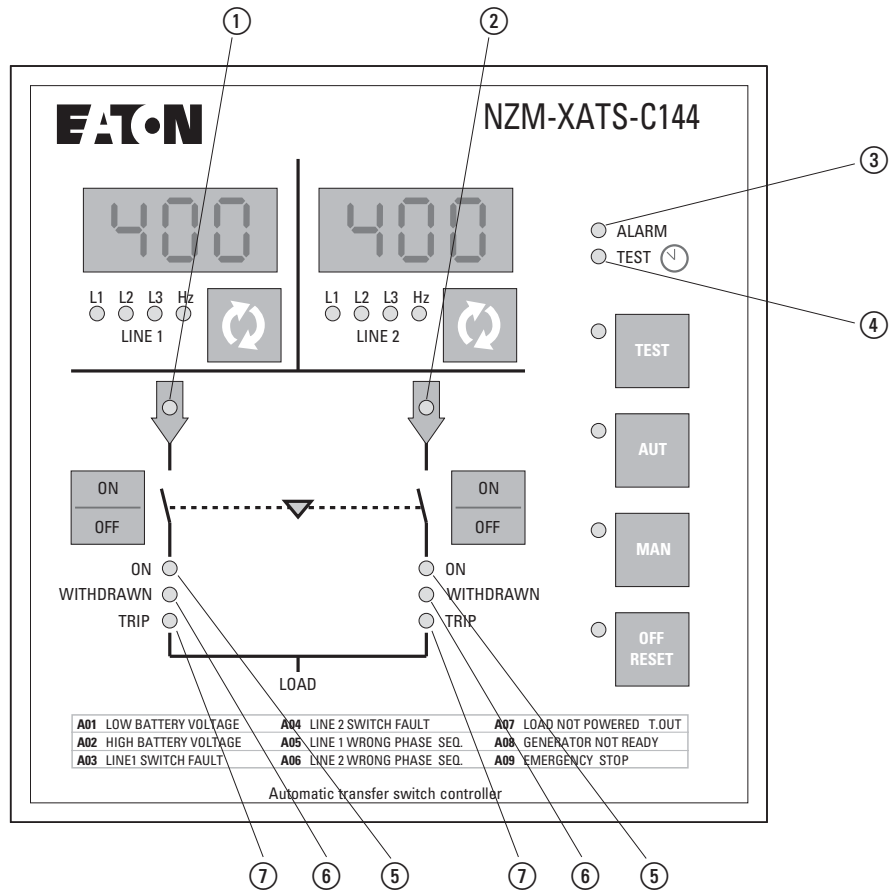

Figure 5: Keypad, LED
If the main supply values lie outside the limit values (red LED LINE 1/LINE 2 off, → Figure 5, Page 10 ① and ②), the NZM-XATS-C144 isolates the consumer from the main supply and switches in the standby supply after the set timed delay. The Automatic Transfer Switch-Controller controls both switching and lead time of the generator (if present) and the timed delay.